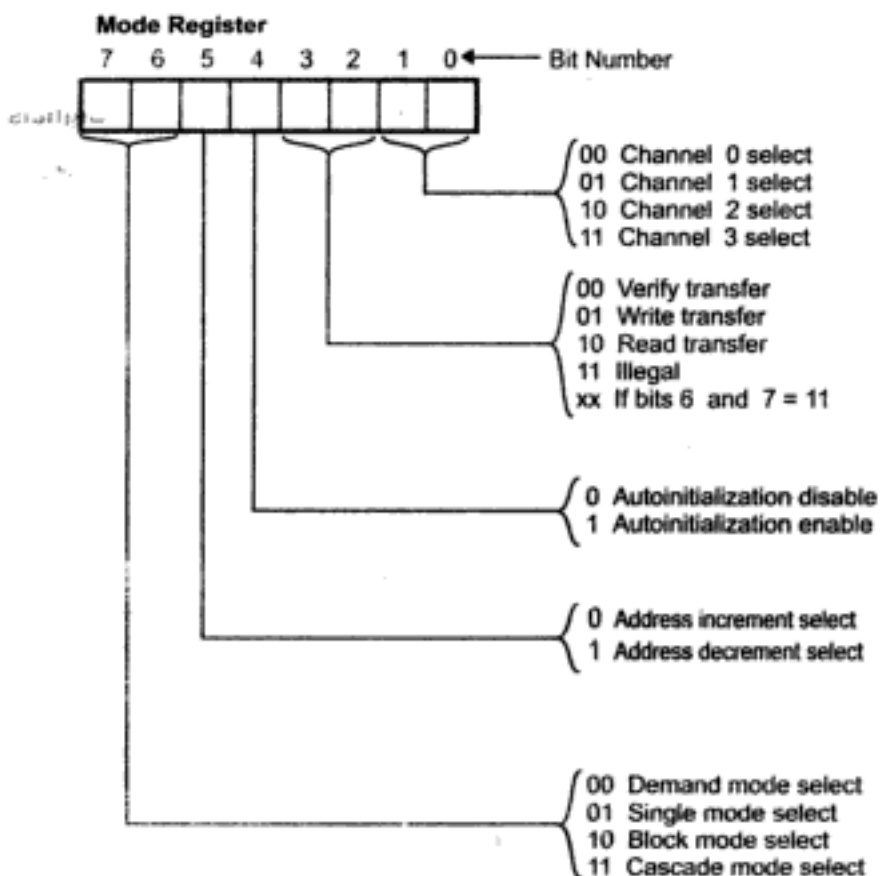

Fig. 6.21 Mode register
7. Mode Register : Each channel has a 6-bit mode register associated with it. The bit pattern of the mode register is as shown in the Fig. 6.21.